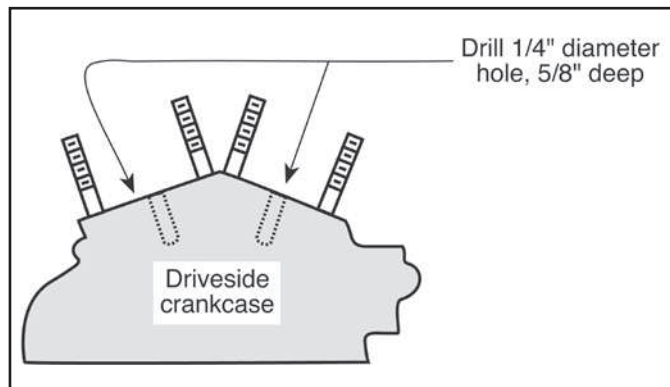

Figure 1
- B. Drill 1/4" diameter holes perpendicular to gasket surface 5/16" deep. **See Figure 1, next page.**